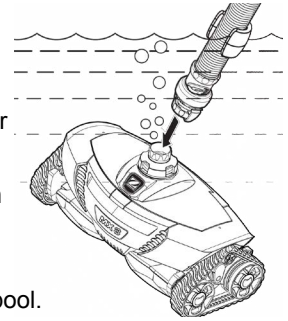

Figure 4
3. When bubbles stop, connect hose with flow regulator valve onto cleaner (Figure 4).